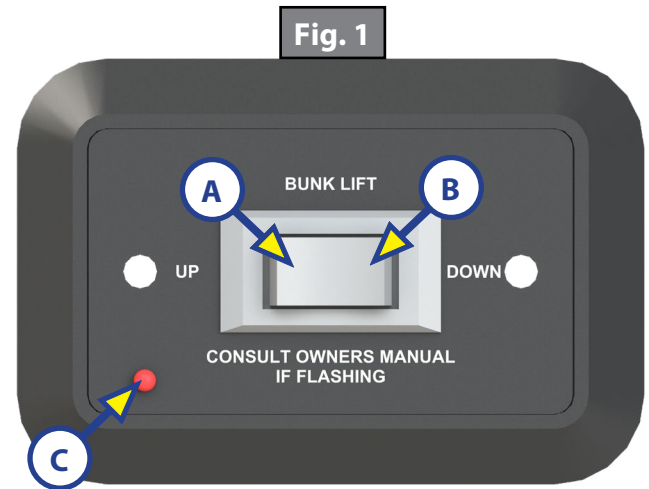

Fig. 2
2. Release the button when the bed is fully raised (Fig. 2) and stops moving.